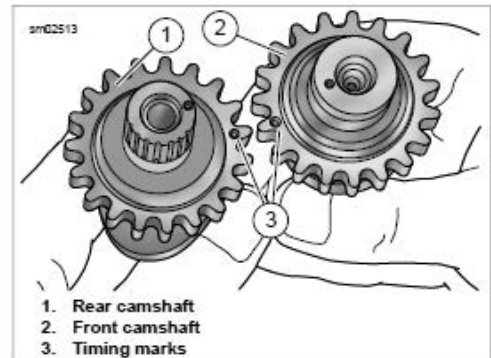

Figure 3-96. Camshaft Timing Marks
1. See Figure 3-96. Align timing marks on teeth of secondary cam sprockets.